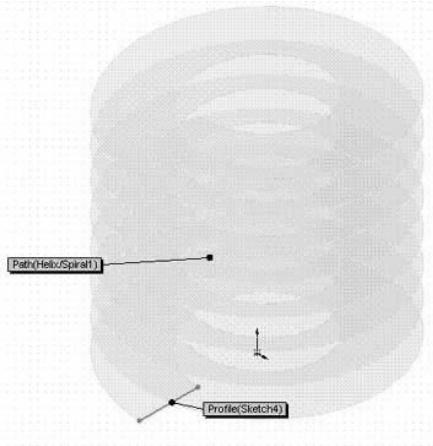

Figure 3 - Preview of the swept surface
8. The preview of the swept surface is displayed, as shown in the Figure 3. Choose the Ok button to confirm the creation of the swept surface.